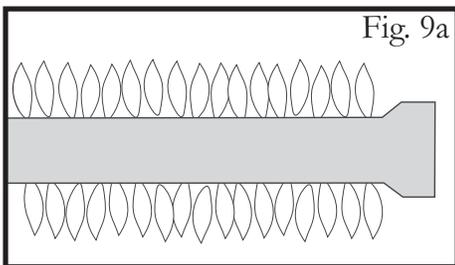

Fig. 9a
**WARNING: IF THE SELECTED BURNER DOES NOT LIGHT,** immediately turn the burner control knob to the OFF position, to prevent gas buildup. Wait five (5) minutes for the gas to clear and then repeat the preceding starting procedure. If the burner will not light when using the Igniter, follow the match lighting instructions (see Page 8).
6. Confirm that the burner is properly lit and that the flame pattern is as desired, (see Figs. 9a, 9b & 9c, for the proper flame patterns). If the flame pattern is other than normal, consult the Troubleshooting Guide on Page 23 for corrective action.
- **WARNING:** IF THE ROTISSERIE BURNER DOES NOT LIGHT, immediately turn the burner control knob to the OFF position, to prevent gas buildup. Wait five (5) minutes for the gas to clear and then repeat the preceding starting procedure. If the burner will not light when using the Igniter, follow the match lighting instructions below.
6. Confirm that the burner is properly lit and that the flame pattern is as desired, (see Figs. 9a, 9b & 9c, for the proper flame patterns). If the flame pattern is other than normal, consult the Troubleshooting Guide on Page 22 for corrective action.